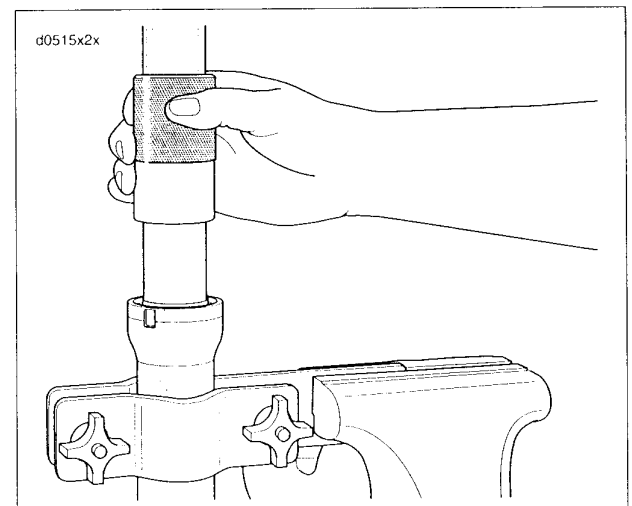

Figure 2-94. Fork Seal Installer
- See Figure 2-94. Drive the guide bushing with the spacer seal into the slider.